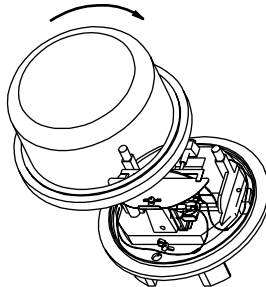

Figure 39. Replacing Cover
10. Replace the cover by screwing it back on in a clockwise direction. Ensure that the power cables do not contact the glass and misalign the WOPI. The WOPI must be parallel to the meter disk. See Figure 39.